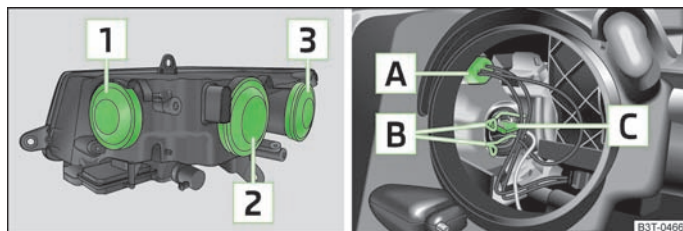

Fig. 189 Headlights: Location of the bulbs/Removing bulbs for the parking light and main beam
Overview of the location of the bulbs » Fig. 189.
- Remove the rubber cover **1** » Fig. 189.
- Remove the holder **A** » Fig. 189.